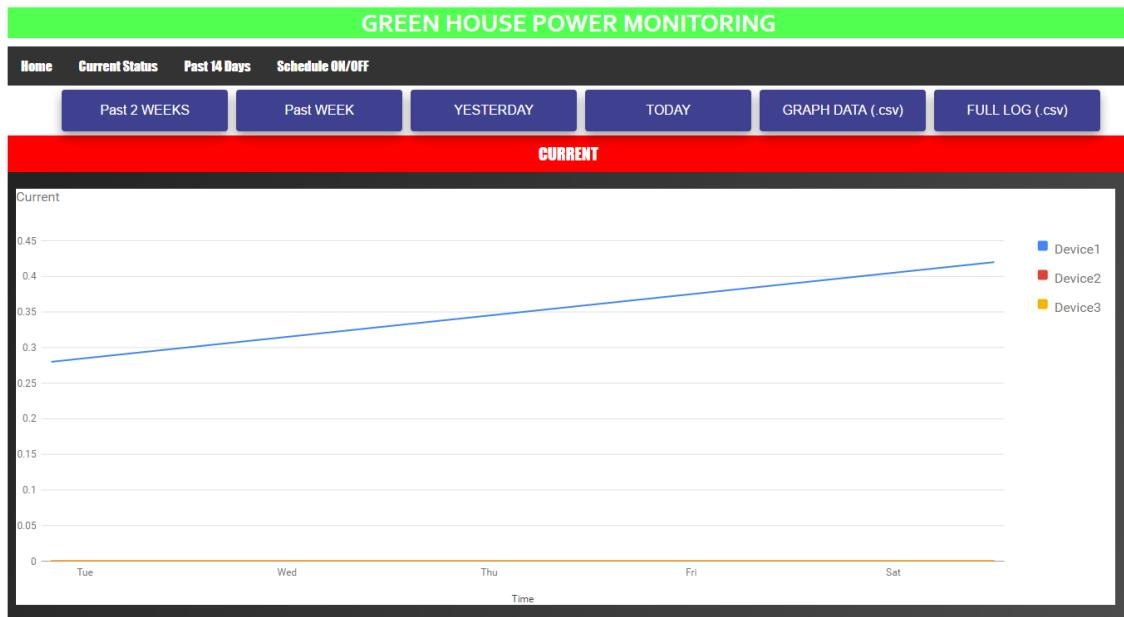

Figure 1.29: Logging page
- Figure 1.29 shows the logging page.